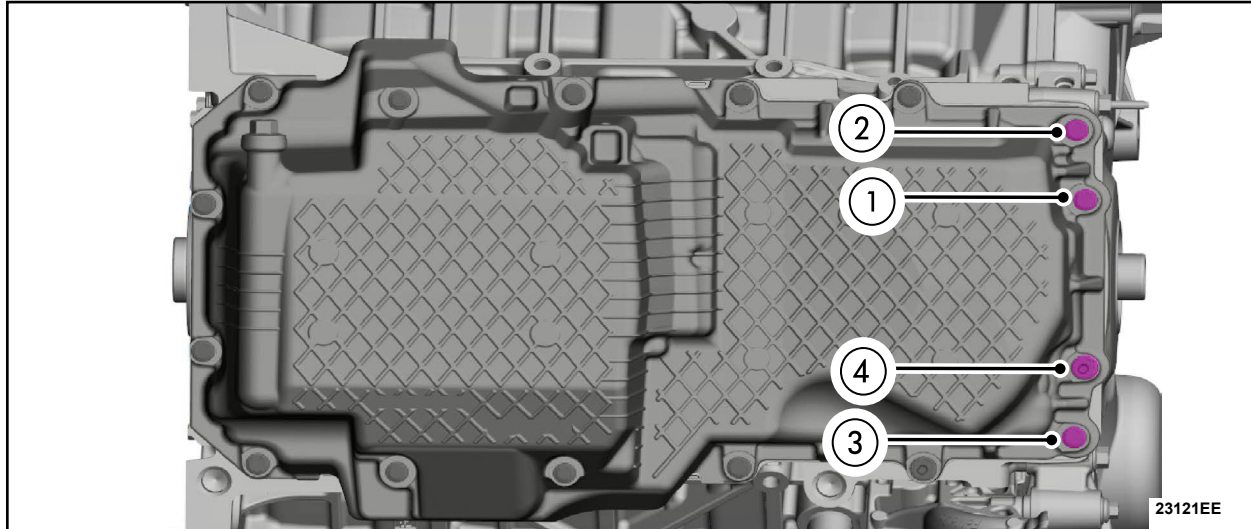

FIGURE 25
40. Install the four oil pan to engine front cover fasteners. See Figure 25.